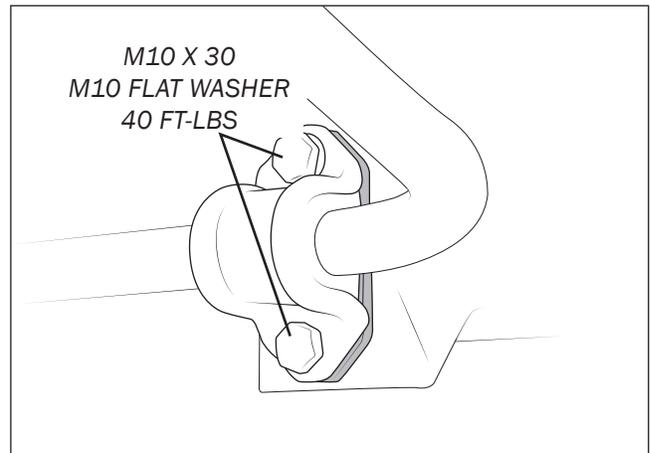

Figure 42
2. Install the sway bar spacer plate behind the right side of the sway bar with supplied hardware and torque to **40 ft-lbs** (fig. 42).